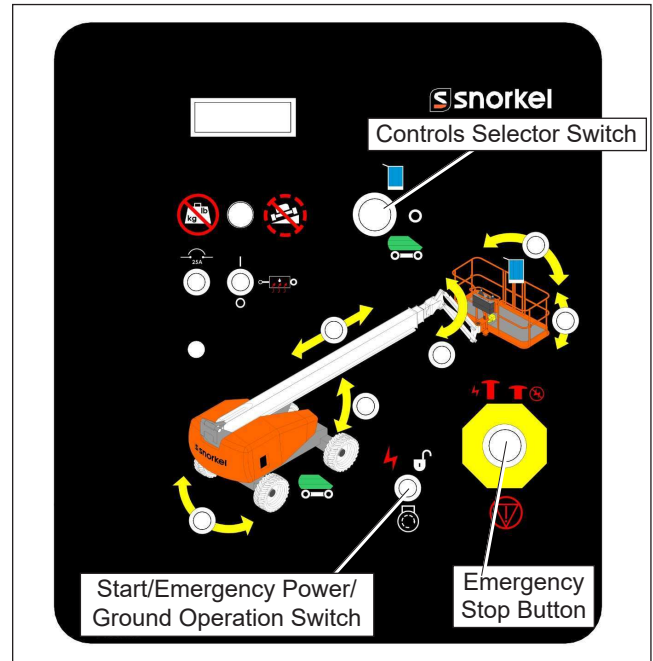

Figure 10.2 – Lower Controls
2. Place the key in the control selector switch (refer to Figure 10.2) and turn it to the lower control position.